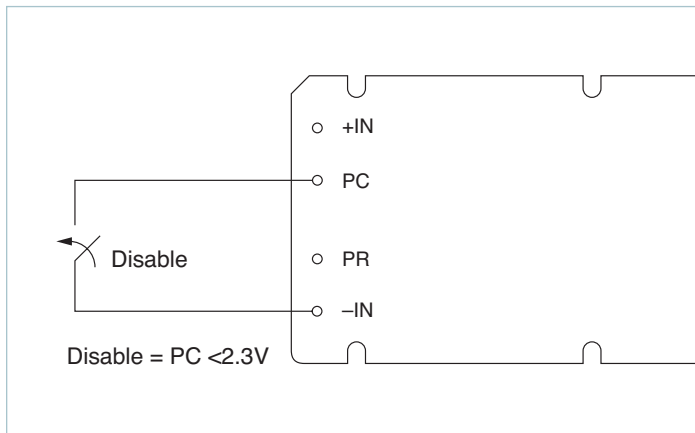
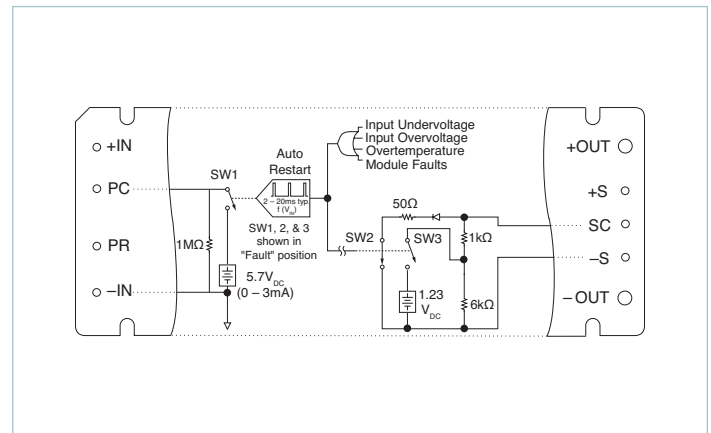
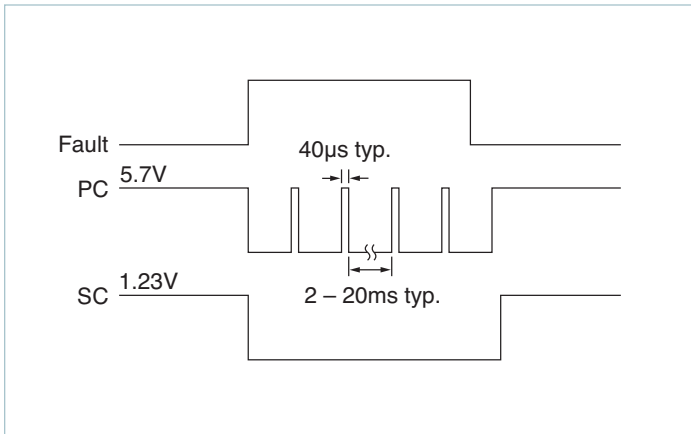
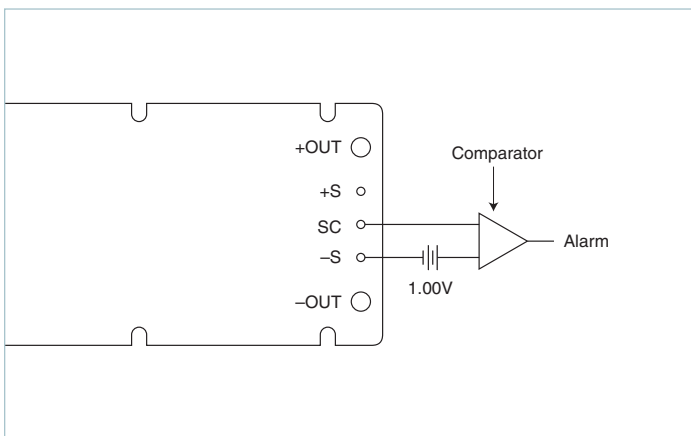

Figure 2.1 — Module Enable / Disable
Figure 2.2a — PC and SC module alarm logic (Maxi / Mini)
Figure 2.4 — PC / SC module alarm timing
Figure 2.6a — Secondary side on-state (Maxi / Mini)
An optocoupler must be used when converters are located on different PC boards, when a common-mode inductor is used directly at the module input or when the distance between the converters would cause excessive voltage drops. Under no circumstances should the PC pin be pulled negative more than a diode drop below the module –IN. (Figure 2.1) When the PC pin is pulled low the PC current will pulse similar to the PC voltage shown in Figure 2.4. When the outputs of two or more converters are connected in a parallel array to increase system power the converters should be “group enabled” to ensure that all the converters start at the same time. The PC pins of all converters in the array should be controlled by an external circuit which will enable the converters once the input voltage is within the normal operating range.
**Module Alarm:** The module contains “watchdog” circuitry that monitors input voltage, operating temperature and internal operating parameters. (Figures 2.2a and 2.2b) If any of these parameters is outside their allowable operating range, the module will shut down and PC will go low. (Figure 2.4) Then PC will periodically go high and the module will check to see if the fault (as an example, input undervoltage) has cleared. If the fault has not been cleared, PC will go low again and the cycle will restart. The SC pin will go low when a fault occurs and return to its normal state after the fault has been cleared. An example of using a comparator for monitoring on the secondary is shown in Figures 2.6a and 2.6b.